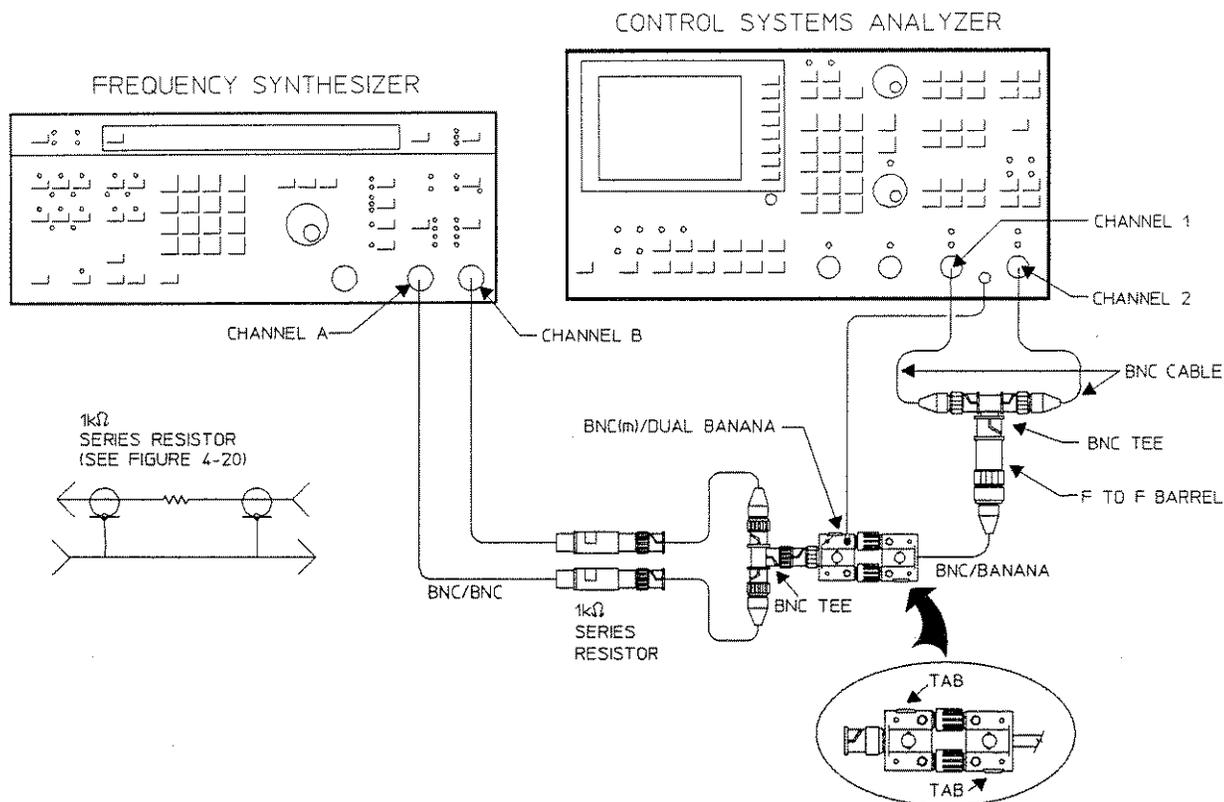

Figure 4-21. Intermodulation Distortion Test Two Setup
1. Connect the test instruments as shown in Figure 4-21, so the center conductor of each channel's BNC is grounded.